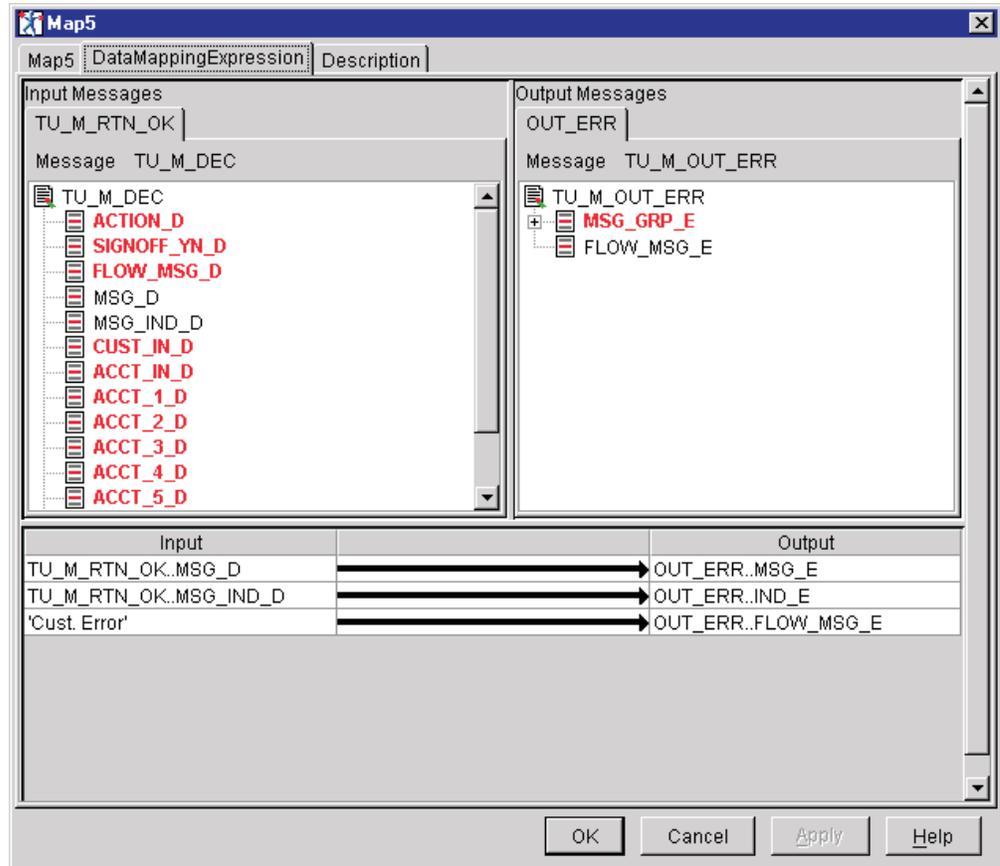

Figure 72. Mapping for Map5 node
- 5) Perform the mapping for Map5 node as listed in Table 36 and shown in Figure 72 on page 103. This map passes error response messages to the MQ Error response Output Terminal (OUT\_ERR).